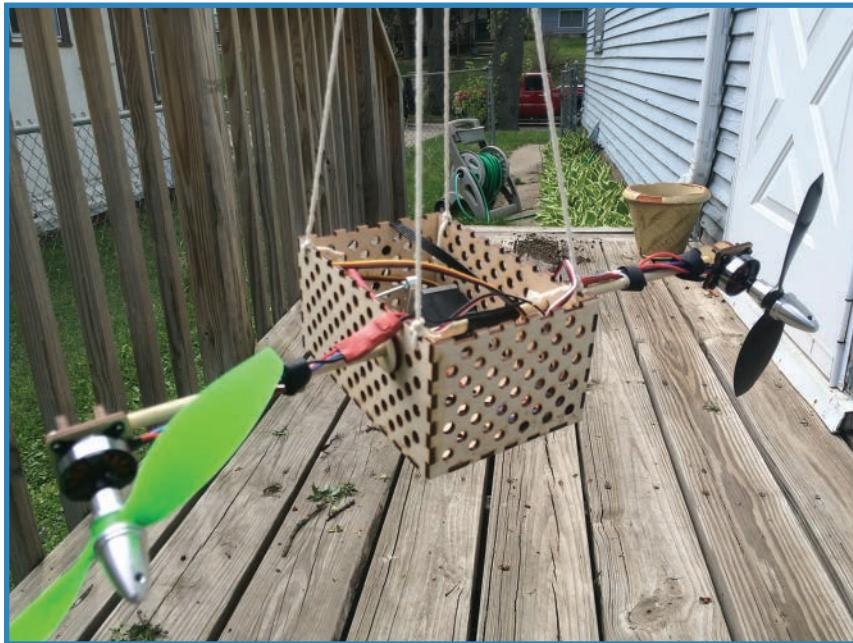

FIGURE 7.1 You'll build a blimp drone in this chapter.
In this chapter, you'll check out radio control (RC) technology, which lets you remotely operate model vehicles using a wireless handheld controller. After that, you'll build a blimp drone that uses an RC setup to fly around (see Figure 7.1). Finally, I'll show you how to make the blimp run autonomously using an Arduino as the brains.